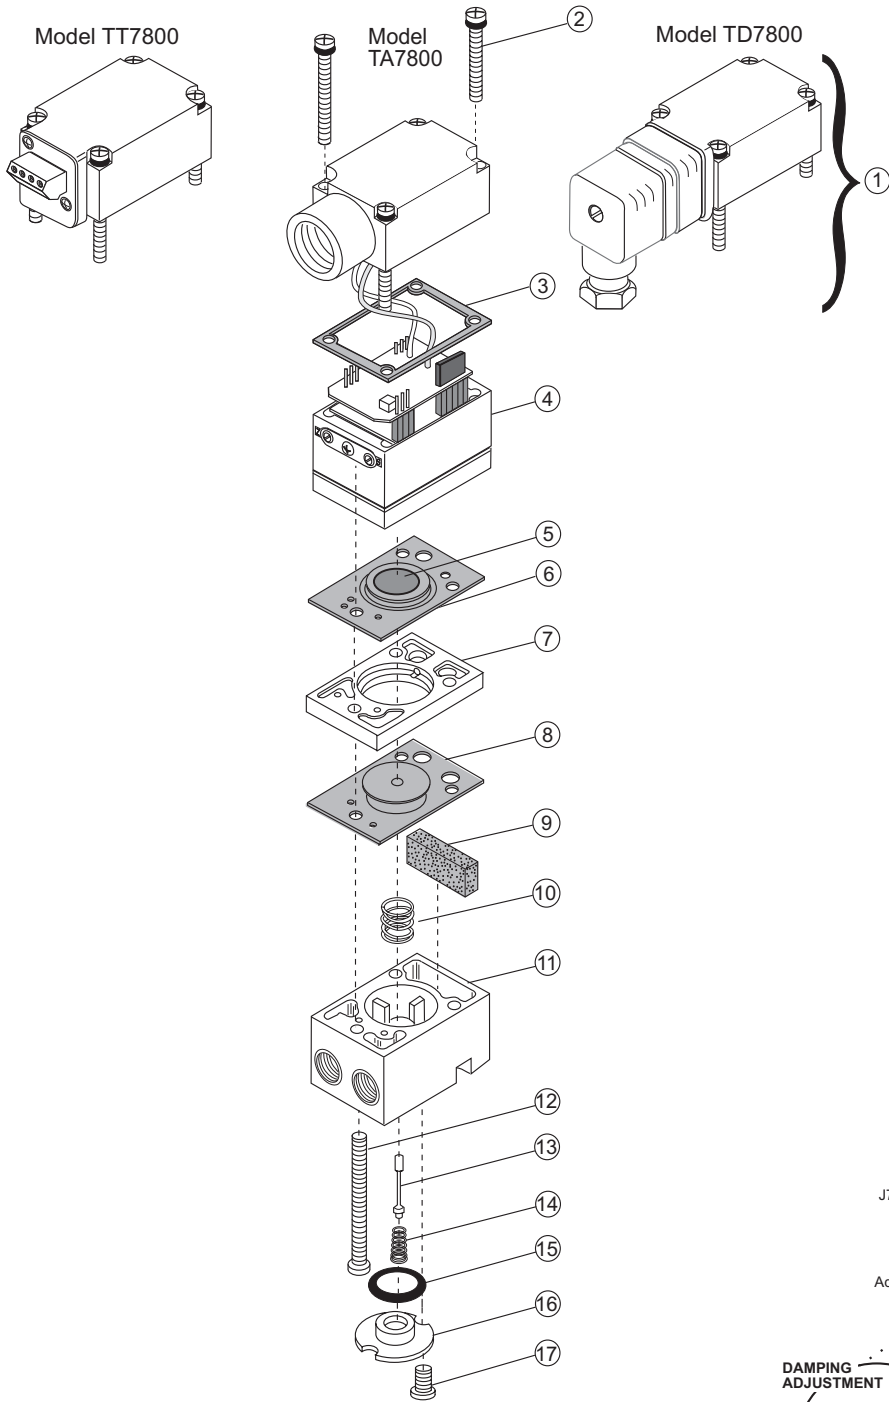

Figure 6
**Part of the TD7500 enclosure is constructed of Non-Metallic material. To prevent the risk of electrostatic sparking, the enclosure shall only be cleaned with a damp cloth. For more information, see Figure 6.**